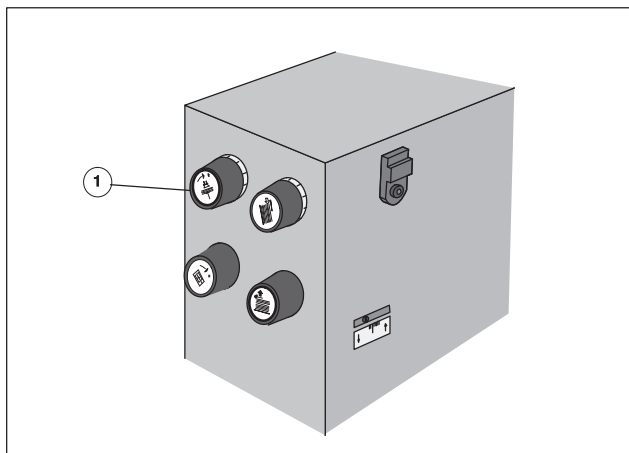

Fig. 20 Control knob for adjusting the suction air
1. Adjust the suction air for the suckers on the sucker bar using the control knob (Fig. 20/1) so that only the top sheet will be picked up.